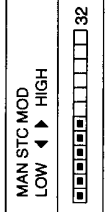

Figure 1-9 Dialog for manual adjustment of STC
1. Press the [STC] key to display the dialogue shown in Figure 1-9.